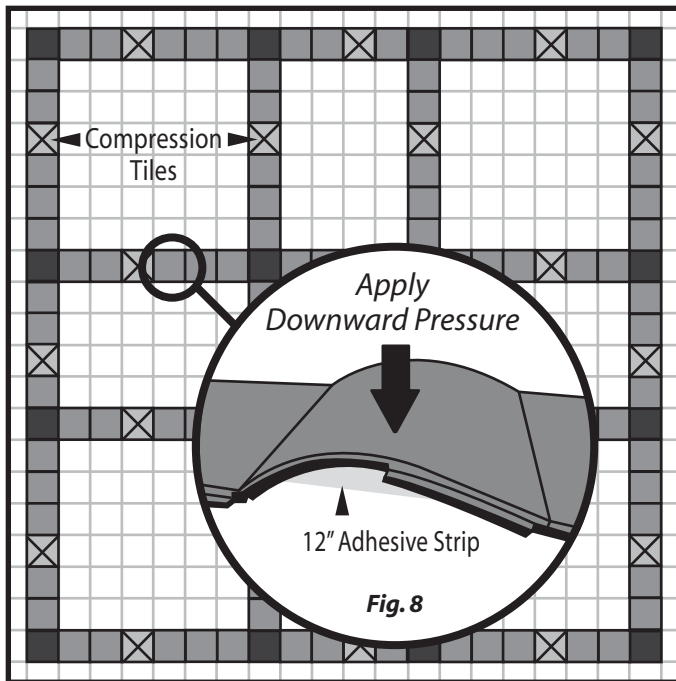

Fig. 7
- The final tile located in the middle of the strategic row is the compression tile and must be compressed into a space smaller than the tile. The process of compressing the tile into this space will force the other tiles to compress in each direction (**Fig. 7**).